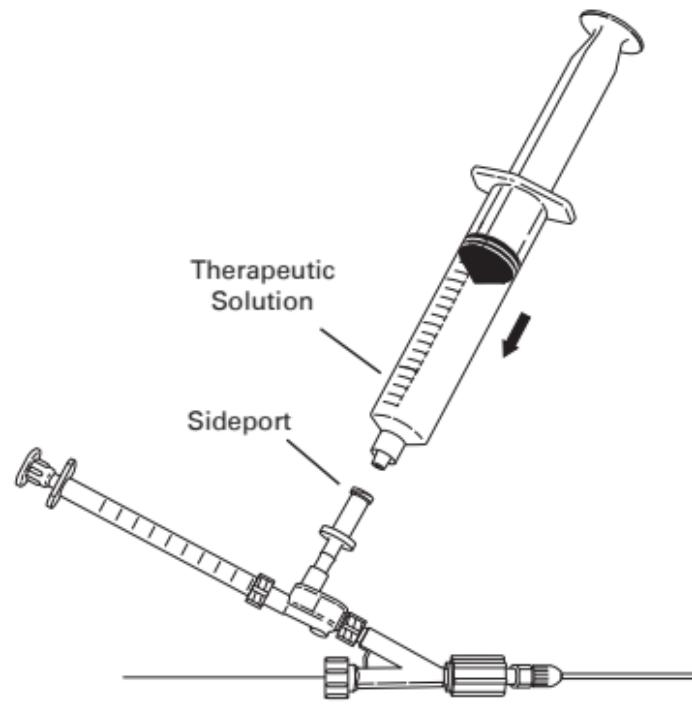

Fig. 7
- all air bubbles are purged. Reattach with a therapeutic solution-filled syringe. (Fig. 7)